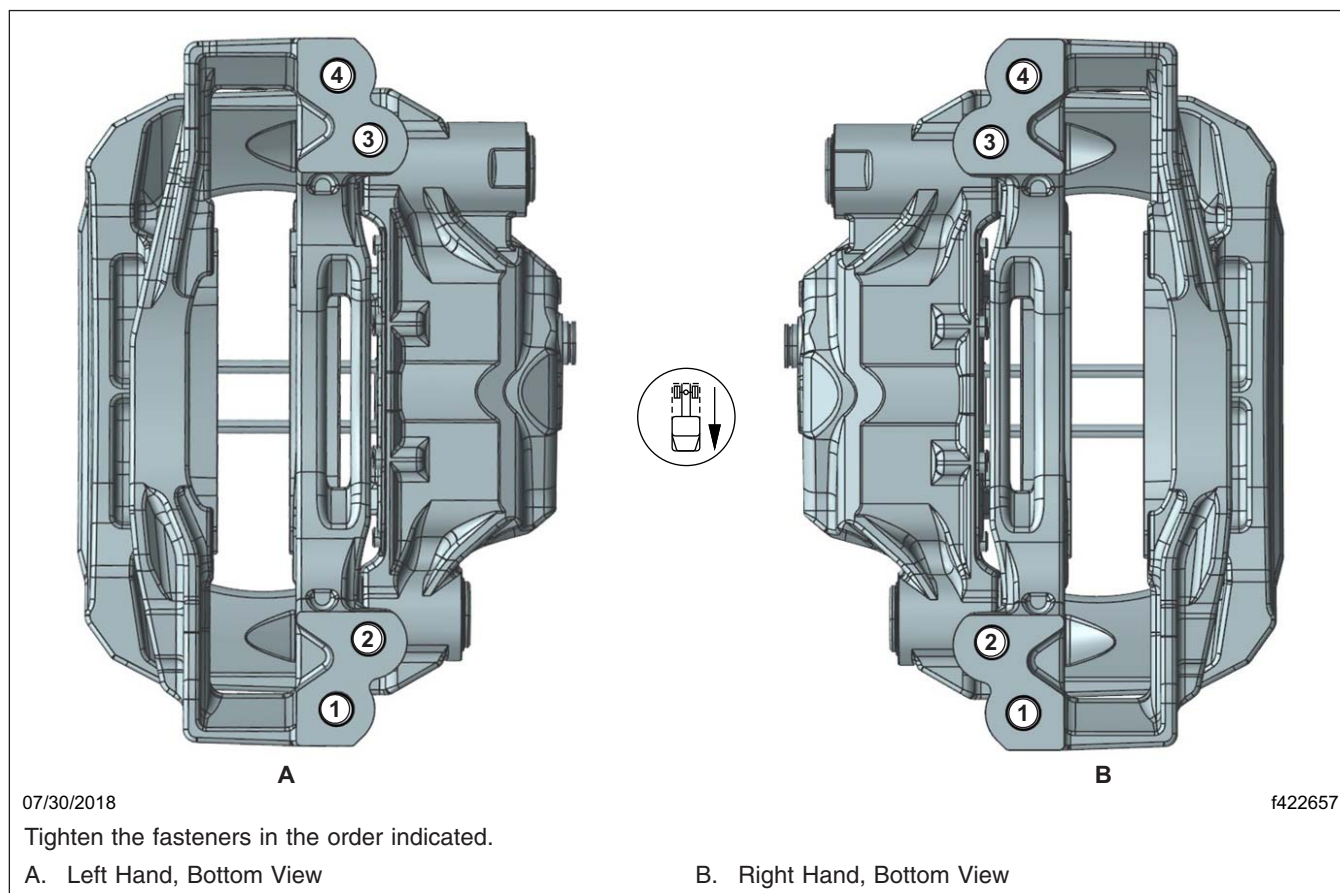

Fig. 8, Wabco Maxxus Radial Mounted Caliper Tightening Pattern
4. Set a torque wrench to 273 lbf·ft (370 N·m) and tighten the caliper mounting bolts following the tightening pattern shown in **Fig. 8**. If they do not turn, no further work is needed. If they turn, take the vehicle to an authorized Freightliner dealer to have all of the caliper bolts on that wheel end replaced.